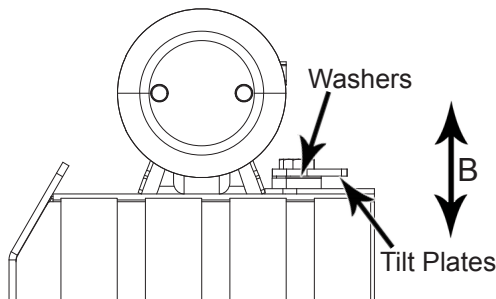

Figure 2
2. Add or remove washers as needed to adjust tilt-way clearance to have 1/16" - 1/8" of clearance in direction 'B' shown in Figure 2.